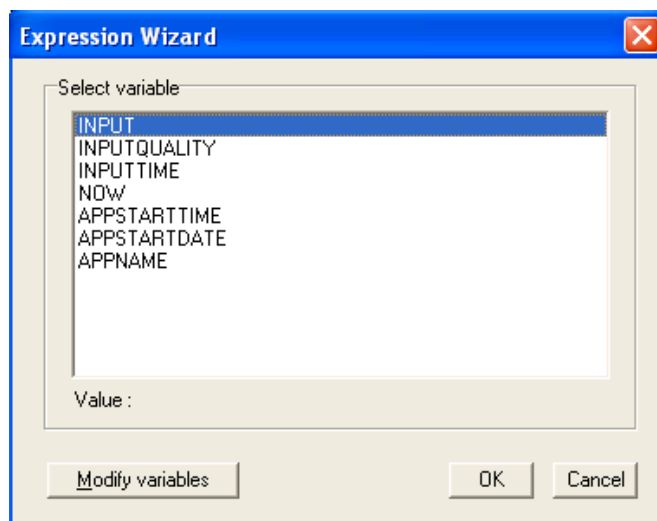

Figure 61 - Select Variable Window
10. Click on the **Variable** button to go to the **Select variable** (Figure 61) window. After selecting the required variable, click on the **OK** button to close the **Select variable** window and return to the **Expression Wizard**.